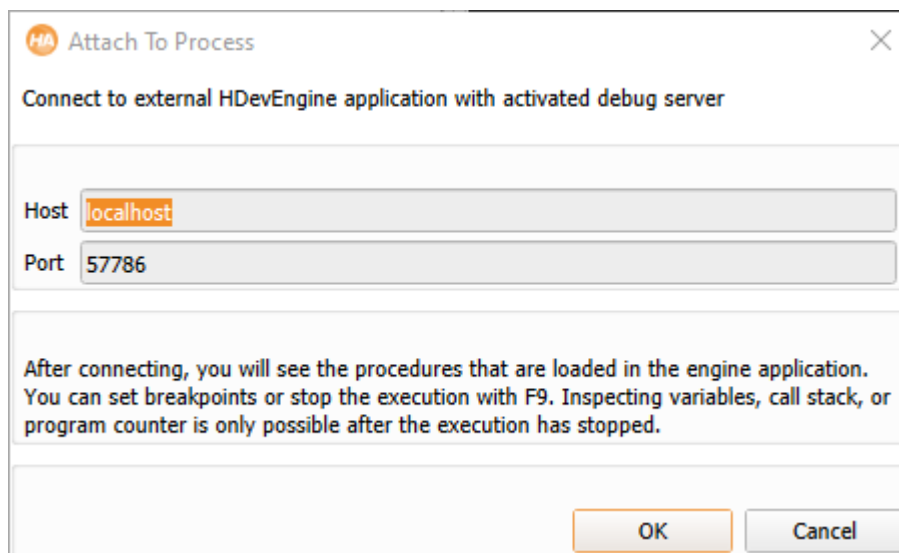

Figure 9.2: Attaching to an external application.
- Enter the host name and connection port, and, optionally, the password. See figure 9.2. The default host name (localhost) can be used if both the external application and HDevelop run on the same machine.